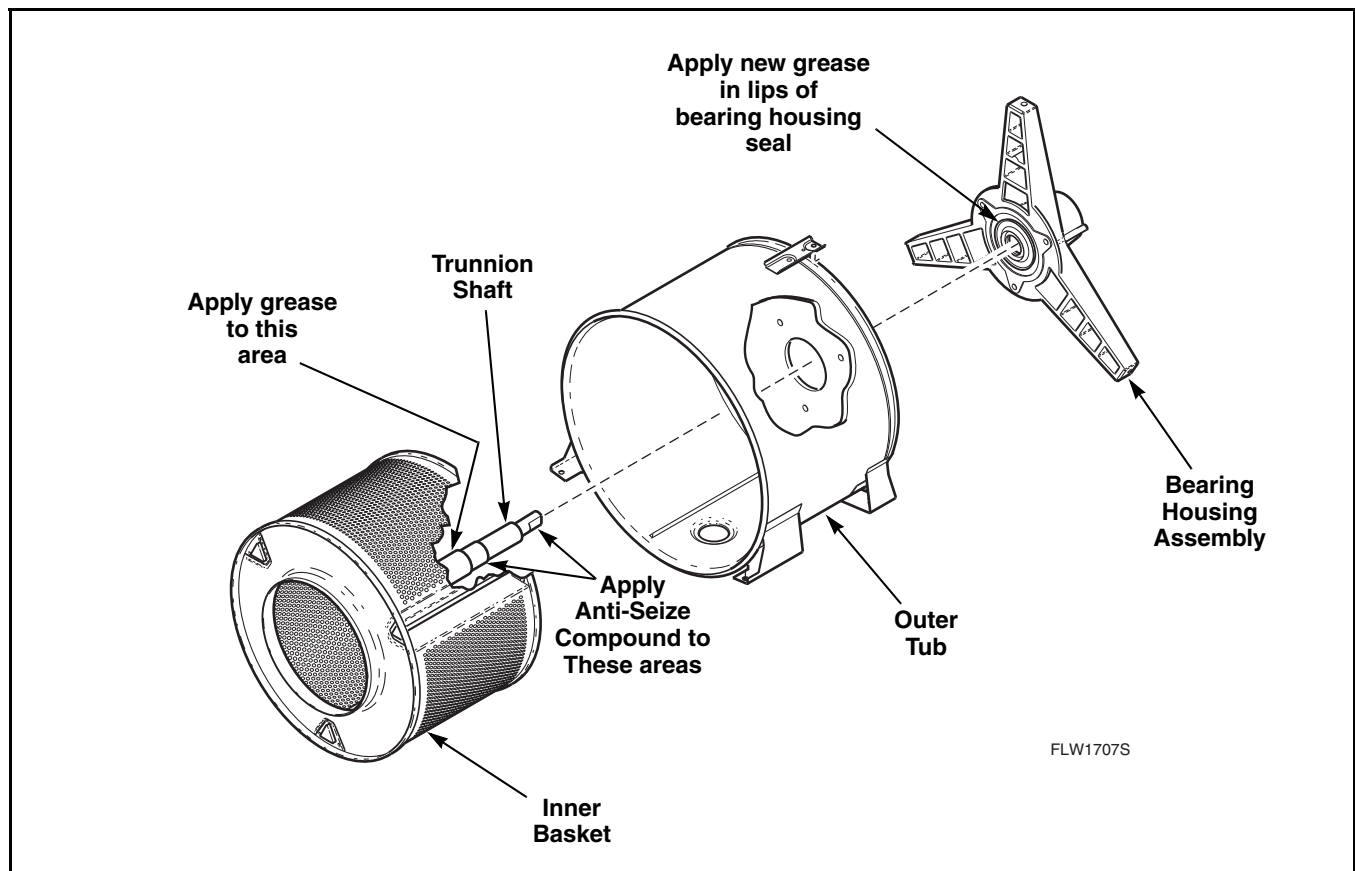

Figure 72
- Apply No. 27604P Anti-Seize Compound to the area of the trunnion shaft that will be contacting the front and rear bearings. Refer to *Figure 72*.
- Apply a film of grease to area of shaft that will be contacting the bearing housing seal. Refer to *Figure 72*. Make sure seal lips also are packed with grease. Refer to *Figure 72*.
- y. Apply No. 27604P Anti-Seize Compound to the area of the trunnion shaft that will be contacting the front and rear bearings. Refer to *Figure 72*.
- z. Apply a film of grease to area of shaft that will be contacting the bearing housing seal. Refer to *Figure 72*. Make sure seal lips also are packed with grease. Refer to *Figure 72*.